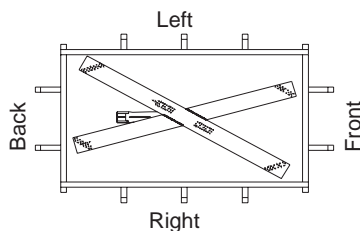

Figure 48 - Burner and Grate (Top View)
5. Figure 48 shows the top view of burner and grate. and grate.